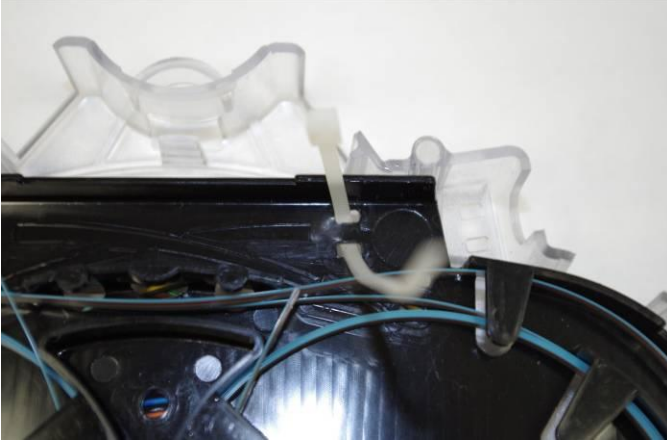

Figure 1
- Step 1:** Take a 3/32" wide x 3" or 4" long zip tie and feed it through the tie down holes in the splice tray (**Figure 1**).